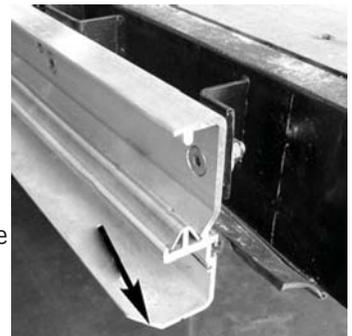

Figure 22
32) See Figure 22. Cut a 3/4" chamfer in the bottom corner of the front rails as shown. This clearance is needed for installation of the bulkhead.